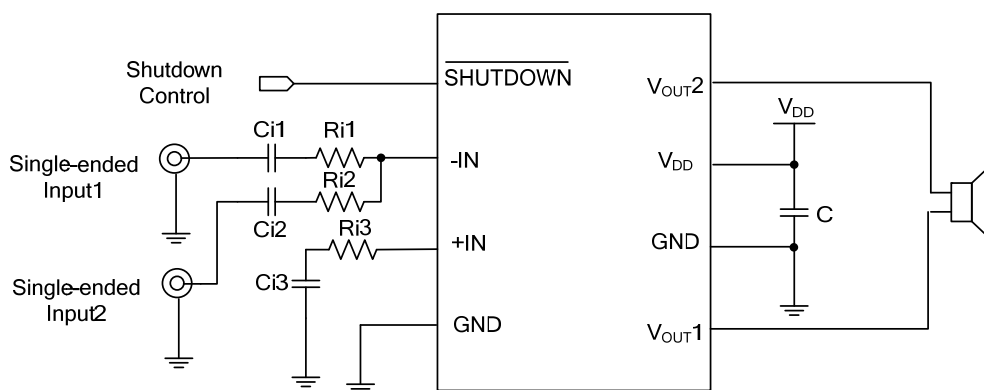

Fig. 7 Dual Single-ended Input Configuration
If the input signal as shown in Fig. 7, the equivalent impedance of each input should be equal. To find the correct values for Ci3 and Ri3, which are found by calculating the parallel combination of all Ci values and all Ri values. Equations (4) and (5) below are for any number of single-ended sources.